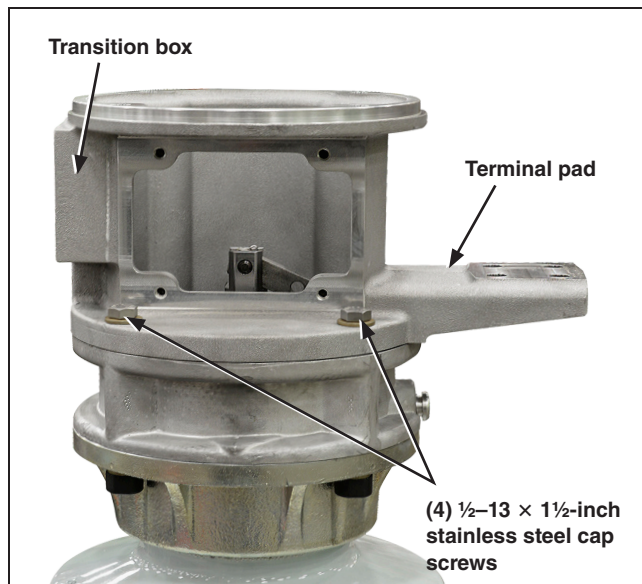

Figure 11. Terminal pad orientation can be rotated 180 degrees.
**STEP 11.** Note the direction of the lower terminal pad on each insulating support column. See the catalog drawing. See Figure 11. If the alternate terminal pad position is desired, remove the  $\frac{1}{2}$ -13  $\times$  1 $\frac{1}{2}$ -inch hex-head stainless steel cap screws and flat washers used to attach the transition box to the insulating support column. Turn the transition box 180 degrees and then replace and securely tighten the  $\frac{1}{2}$ -13  $\times$  1 $\frac{1}{2}$ -inch cap screws.